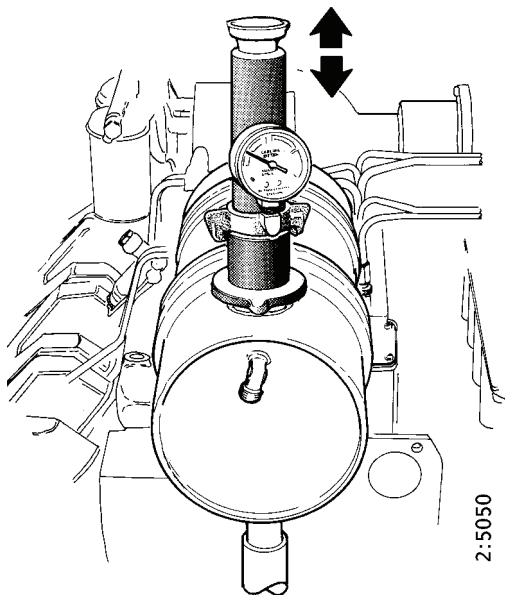

Figure 7-1
5. Pump until the pressure is 0.4 - 0.5 bar (5.8 - 7.3 psi) (Figure 7-1).